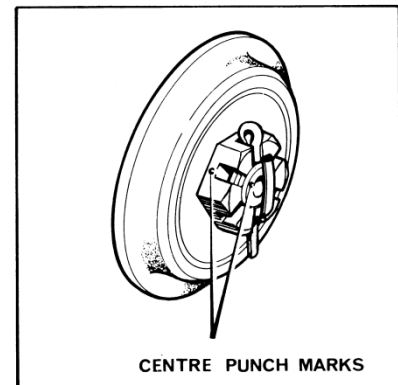

Figure 3 Centre punch marks on nut and stub axle.
5. Mark the position by centre punching the nut and stub axle, see Figure 3.